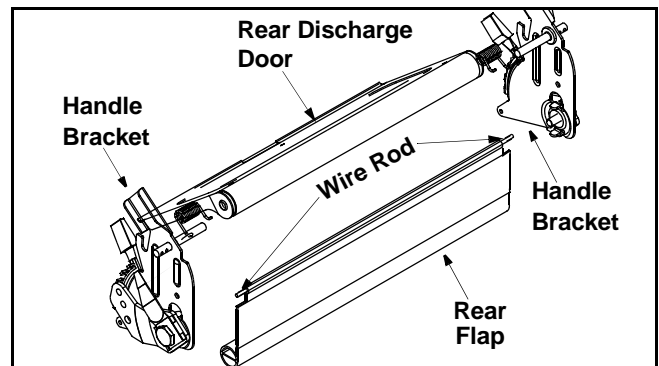

Figure 16
1. To remove rear flap, cut off the flat end of the wire rod which secures it to the deck. See Figure 16.